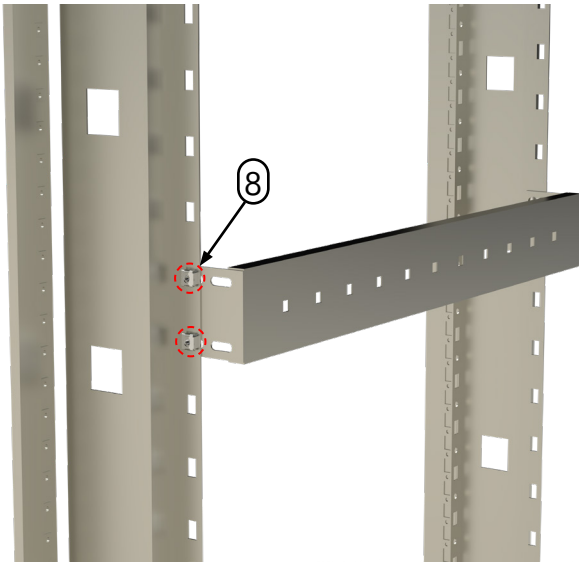

Figure 5
- Insert flanged cage nuts (Item 8) into the TMK from the outer side of the internal mounting rail (Figure 5).